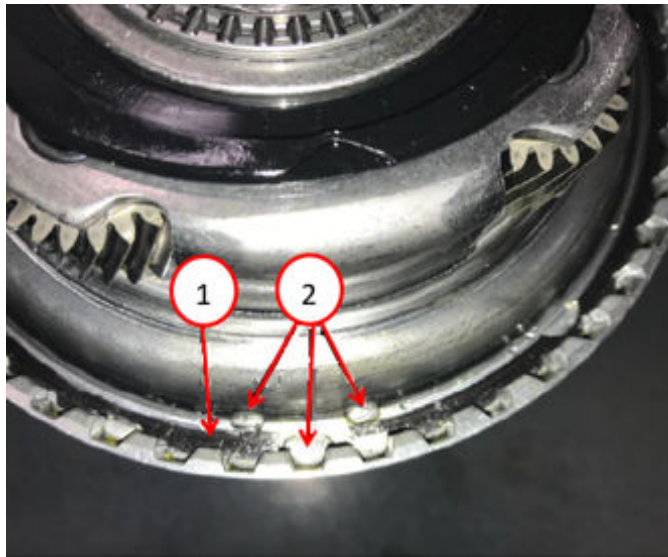

Fig. 23
31. Position the rings support on the P4 annulus drum assembly to protect the drum Fig. 23.